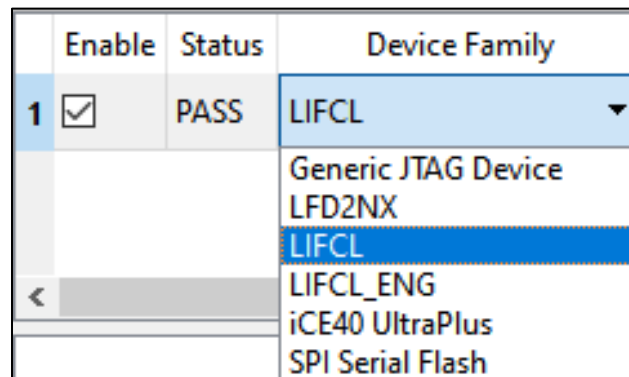

Figure 4.3. Radiant Programmer – Device Selection
3. Select **LIFCL** for **Device Family** and **LIFCL-40** for **Device** as shown in Figure 4.3.